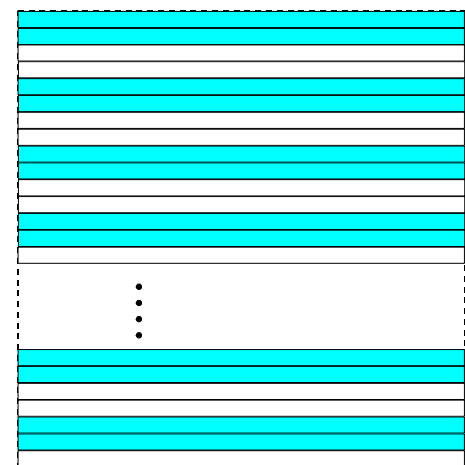

Fig. 62: Decimation of 2 (Color Cameras)
- 2 for color cameras: only every other pair of rows of the acquired frame will be transmitted out of the camera meaning that the Bayer filter stays properly aligned (Figure 62).